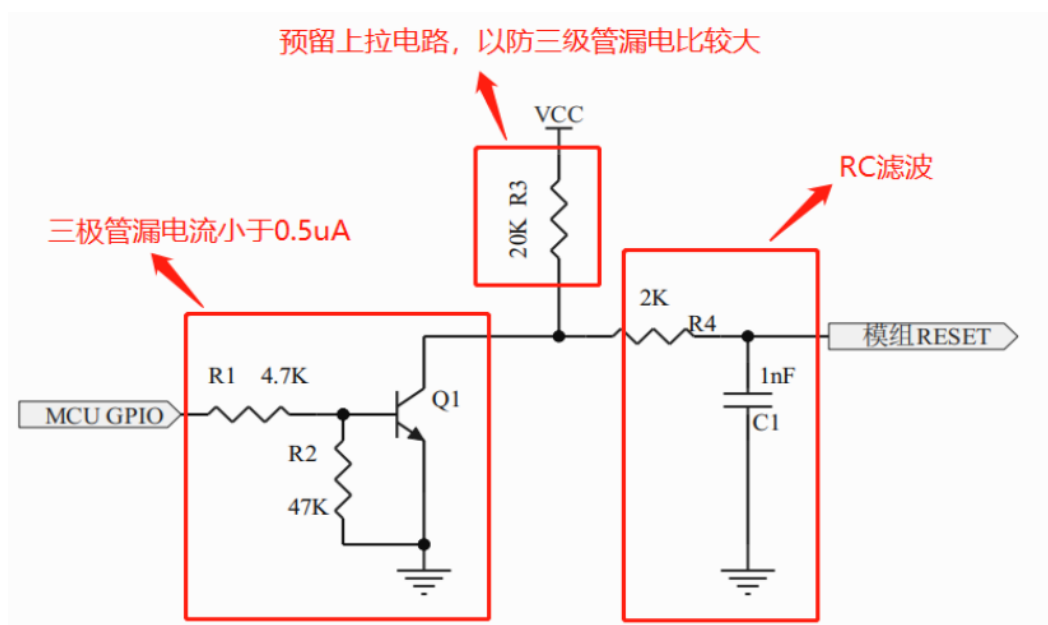

Figure 10 The Reset pin reference circuit
2) If the external MCU GPIO is connected to the RESET pin of the module via a triode (as shown in Figure 10), the leakage current in the triode cut-off state is required to be less than 0.5uA. The reason is that the internal drag resistance of the RESET pin is very weak, and the leakage may pull the RESET pin below 1.2V. The NB chip work normally for its RESET pin high level need guaranteed to be above 1.2V.
- ① Use a MOS tube instead of the triode, most MOS leakage current is small.
- ② The pull-up circuit is reserved on the circuit (as shown in FIG. 10). The voltage range of VCC is 1.8V-3.6V and need often open. Do not use the electricity from the NB module.